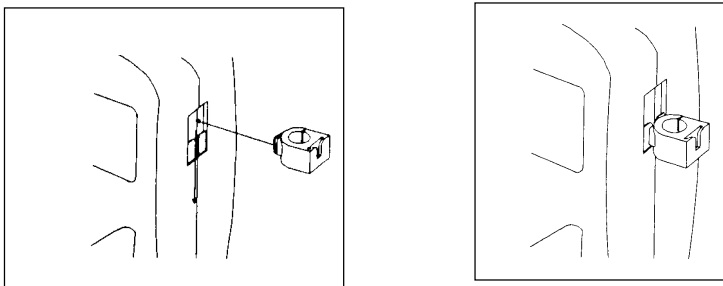

Figure 8: Slide in the electrode holder
2. Gently slide the flange of the holder into the slot on the meter. Make sure the holder is secured properly into the slot (Figure 8).